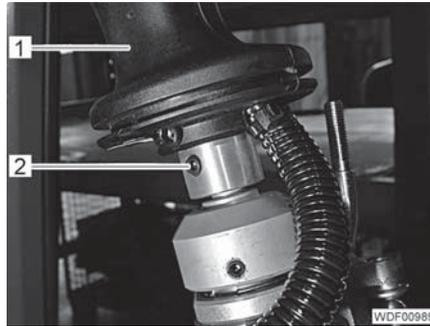

Fig. 209 Multi-function lever attachment
- Loosen the stud screw (Fig. 209,2) but do not unscrew it.
- Unscrew the multi-function lever (Fig. 209,1).
- Screw the multi-function lever (Fig. 209,1) onto the thread and align it.
- Tighten the stud screw (Fig. 209,2) hand-tight.